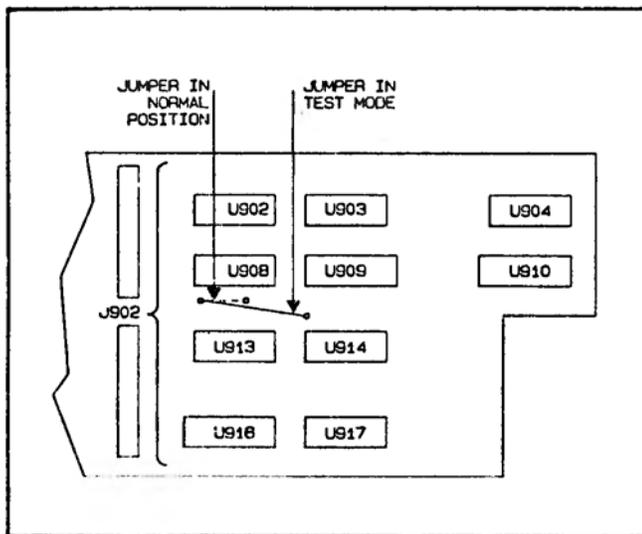

Figure 8-15. 3466A Self-Test Connection
b. Refer to Figure 8-15 and connect the test jumper to the test position, as shown in the figure. If the 3466A is an older instrument that does not have the test jumper, do the following: